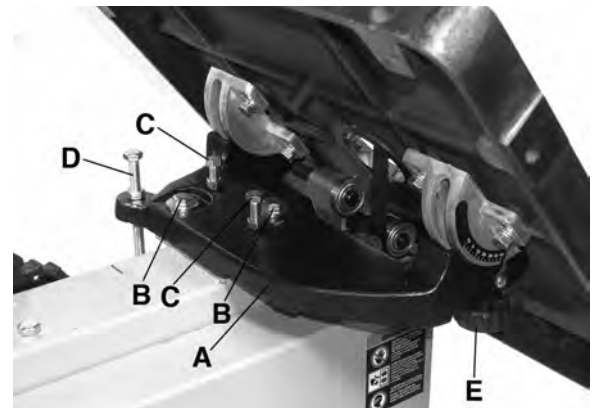

FIGURE 5
1. To mount the table, first mount the trunnion bracket (A) Fig.5 to the base using 2 hex. bolts and washers (B). Install the 2 short hex. bolts and nuts (C) and long table stop hex. bolt and nut (D) to the trunnion bracket as shown.